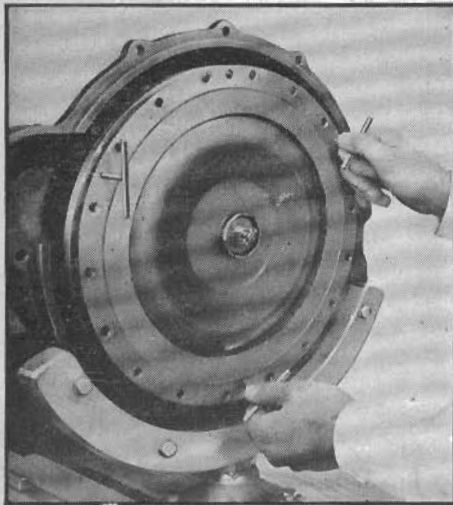

Fig. 8 Removing turbine and cover assembly. 1950-52
4. After all retaining bolts have been removed, screw three 10-32x2" "T" screws into three tapped holes in turbine cover to loosen and remove cover and turbine assembly, Fig. 8.